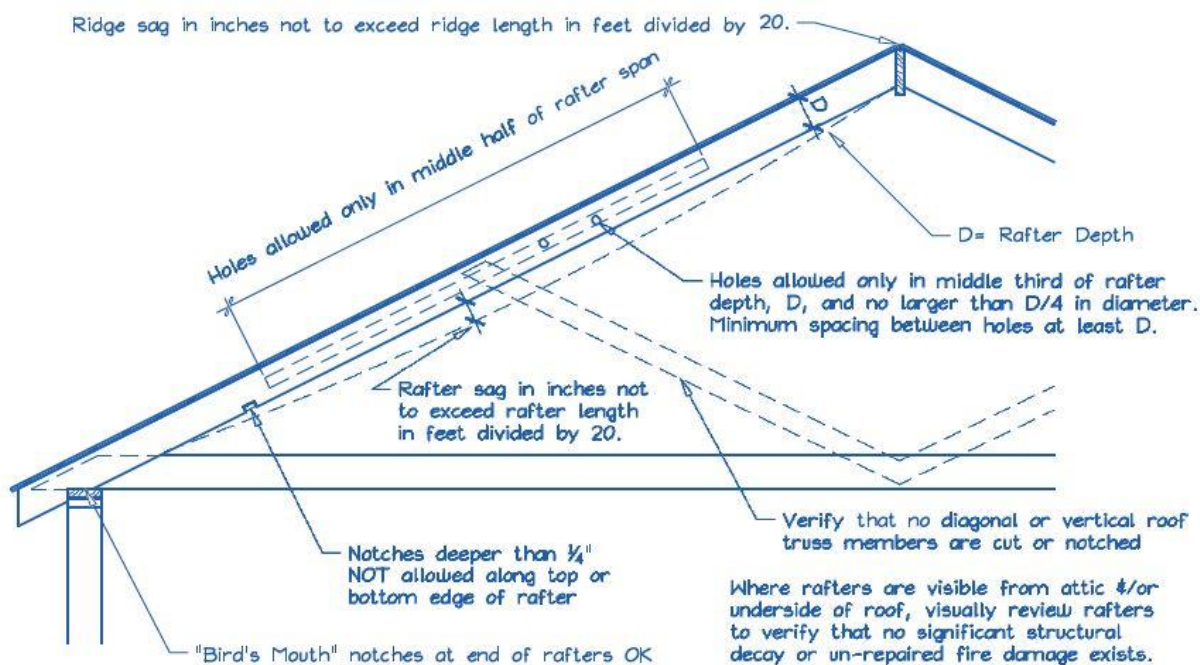

Figure 1. Roof Visual Structural Review of Existing Conditions. (Site Audit)
- 2) Does the roof structure appear structurally sound, without signs of alterations or significant structural deterioration or sagging, as illustrated in Figure 1? ☐ YES ☐ NO